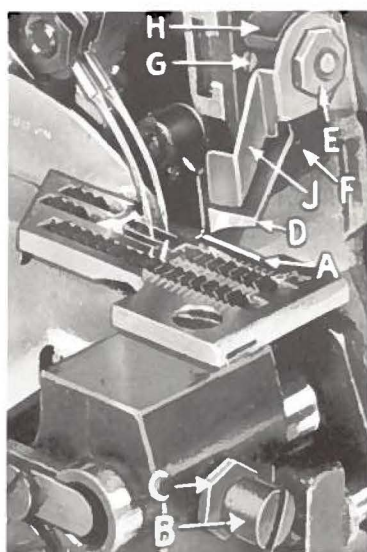

Fig. 13
Replace lower knife holder assembly. Lower knife (A, Fig. 13) should be set with cutting edge flush with throat plate surface. Adjustments are made with hexagonal head screw which holds lower knife. Lower knife is spring pressed against upper knife, so no lateral adjustment is necessary when width of trim is changed.
Replace upper knife assembly. Clamp upper knife (D, Fig. 13) in position, setting nut (E) to hold clamp (F) in its most clockwise position against upper knife. Upper knife chain guard (J) should be positioned so that the guarding section is approximately $1/64$ inch behind the cutting edge and in contact with the top surface of the upper knife.